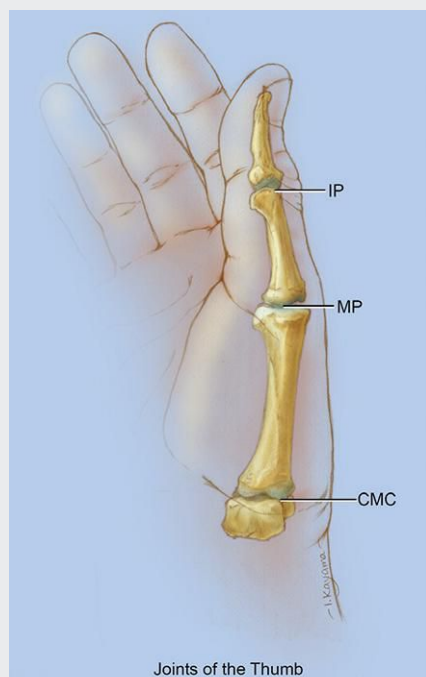

Figure 1. Joints of the thumb, with carpal bones: interphalangeal (IP), metacarpal (MP), and carpal-metacarpal (CMC).
The multiple structures in the thumb are precisely coordinated. *Figure 1* shows that the thumb comprises three joints: the interphalangeal joint (IP), the metacarpal joint (MP), and the carpal-metacarpal joint (CMC). The IP and MP joints